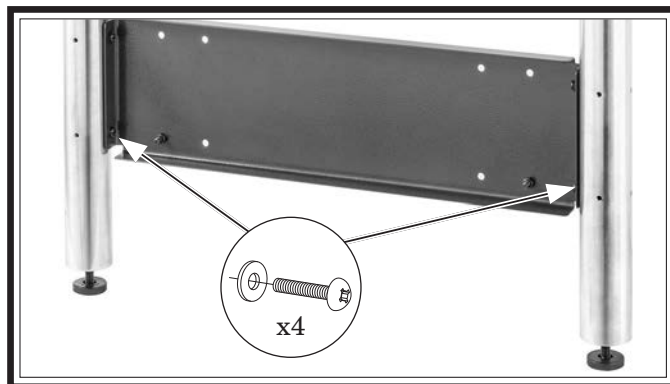

Figure 29. Shelf end plate attached to legs.
- Fasten shelf end plate to legs with (4) M6-1 x 12 Phillips head screws and (4) 6mm flat washers as shown in **Figure 29**.